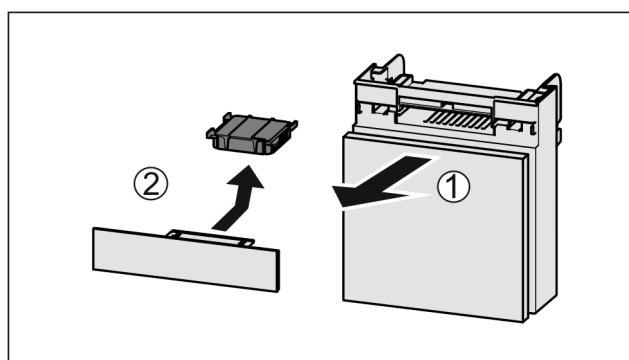

Fig. 99
- Pull out the compartment Fig. 99 (1).
- Remove the carbon filter Fig. 99 (2).